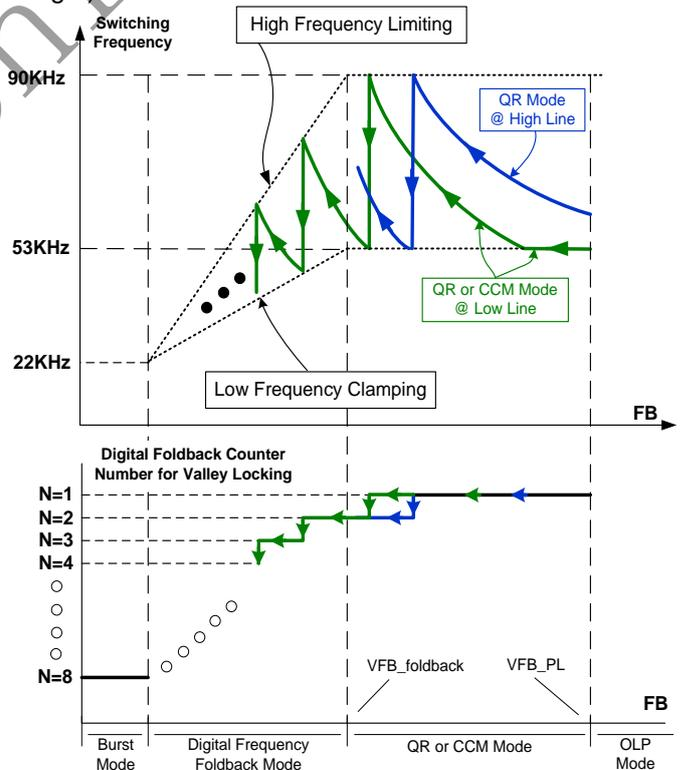
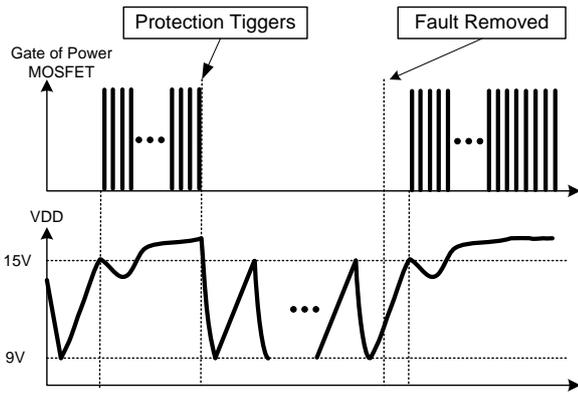

Fig.3
Fig.9
■ At normal or full loading conditions, the operating mode is CCM when the input is in low line range since the low clamping frequency (52KHz typical) is touched. Thus, small size transformer can be used with high power conversion efficiency. When the input is in high line input range, the IC work in QR mode with high frequency clamping (typical 80KHz), as shown in Fig.3. When FB voltage is larger than VFB\_PL, the system enters into OLP mode with auto recovery protection (as illustrated in Fig.8 and Fig.9).
■ At light loading conditions (FB voltage is below VFB\_foldback), the IC works in **“Digital Frequency Foldback”** mode. The system frequency is limited between **“High Frequency Limiting”** and **“Low Frequency Clamping”**, as shown with the dashed line in Fig.3. In **“Digital Frequency Foldback”**
As shown in Fig.9, once a fault condition is detected, switching will stop. This will cause VDD to fall because no power is delivered from the auxiliary winding. When VDD falls to UVLO(off) (typical 9V), the protection is reset and the operating current reduces to the startup current, which causes VDD to rise, as shown in Fig.9. However, if the fault still exists, the system will experience the above mentioned process. If the fault has gone, the system resumes normal operation. In this manner, the auto restart can alternatively enable and disable the switching until the fault condition is disappeared.